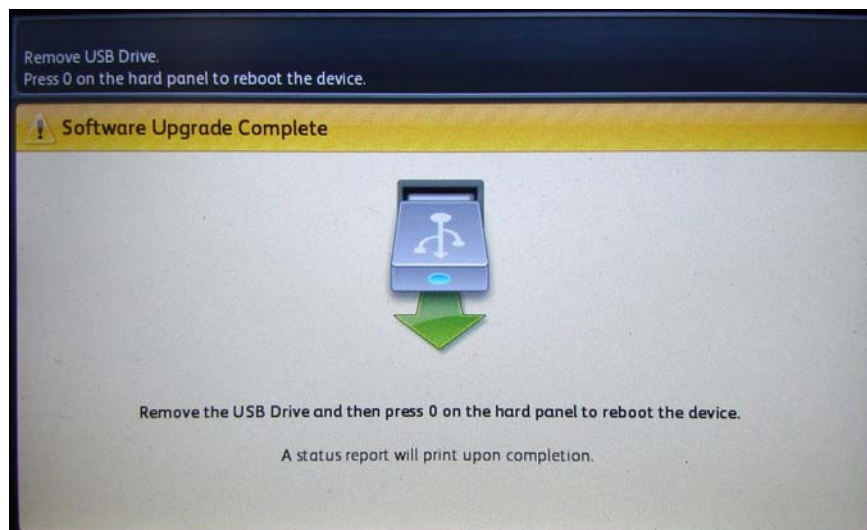

Figure 4 AltBoot complete
11. The AltBoot process should complete after approximately 5 minutes and the AltBoot complete screen opens, Figure 4. Follow the on screen instructions.